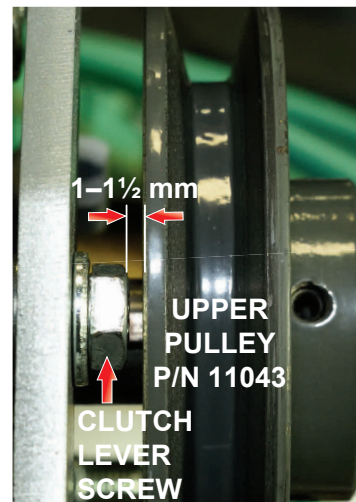

Figure 25. Pulley Gap Distance
2. Slide the upper pulley (P/N 11043) onto the engine crank shaft. The distance between the pulley and the clutch lever screw should be approximately 1–1½ mm (Figure 25). **DO NOT** tighten the pulley set screws at this time.